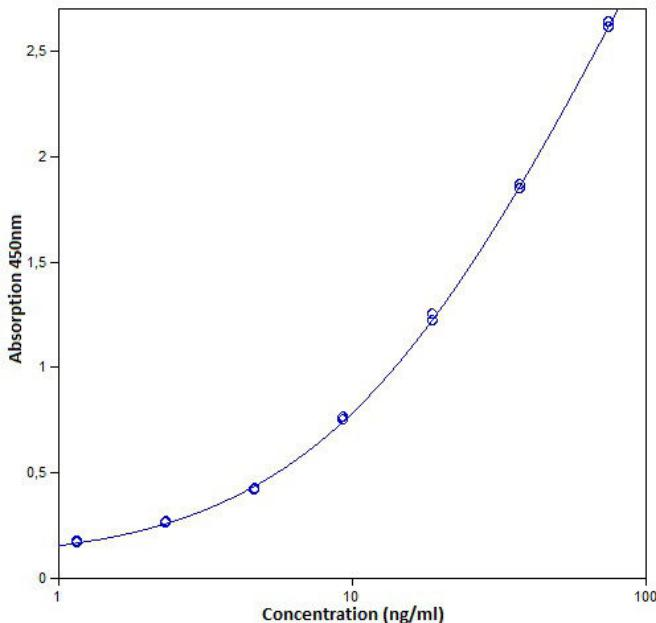

Fig. 7 Representative standard curve for human IgG2 ELISA.
- A representative standard curve is shown in Figure 7.